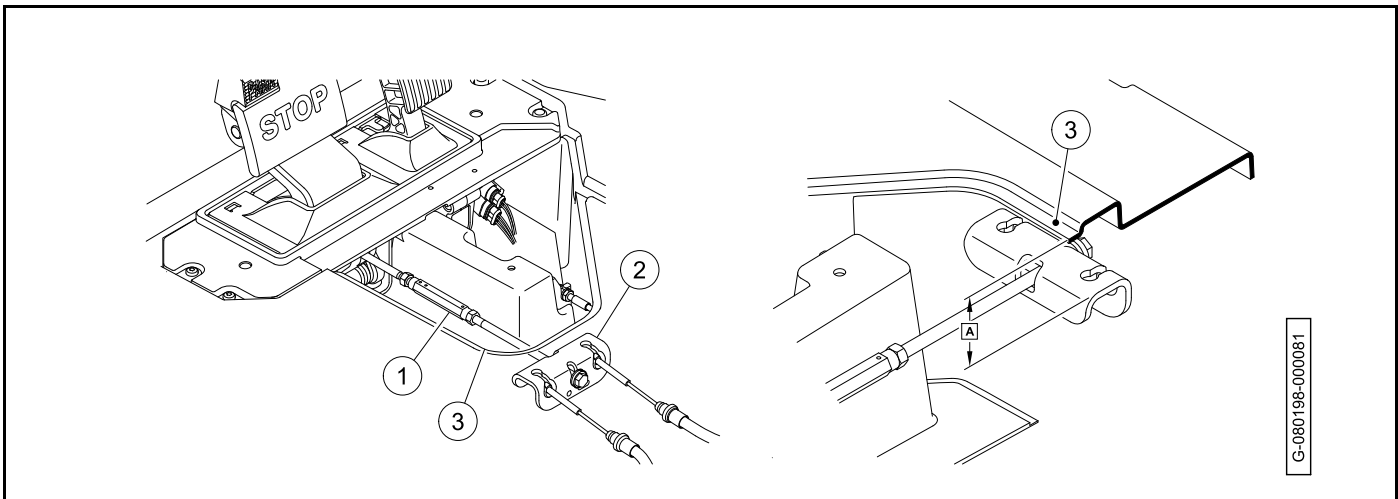

Figure 6-17
2. Adjust the turnbuckle (1) until the distance (A) between the top of the brake cable equalizer (2) and the upper flange surface (3) is 2 inches ($\pm 1/16$) (51 mm (± 1.6)) (**Figure 6-17**).